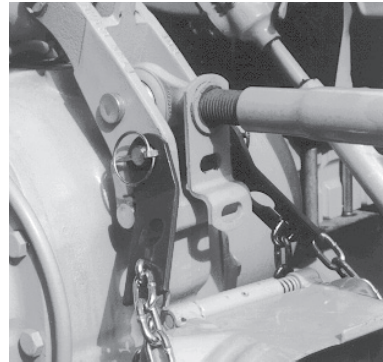

figure 1
3. Pin 2 keyhole plates to the tractor toplink with pins from the tractor (figure 1)